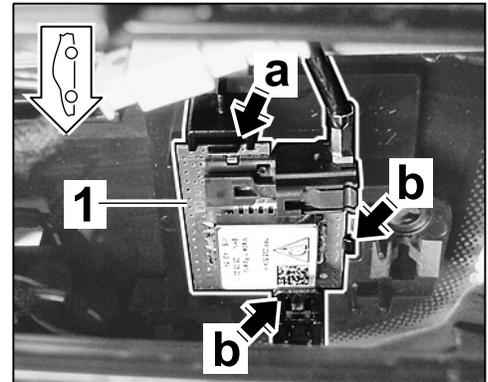

Figure 4
2.2.2 Insert GPS antenna ⇒ *Figure 4-1-* into the mounting ⇒ *Figure 4-a-* and clip it in ⇒ *Figure 4-b-*.